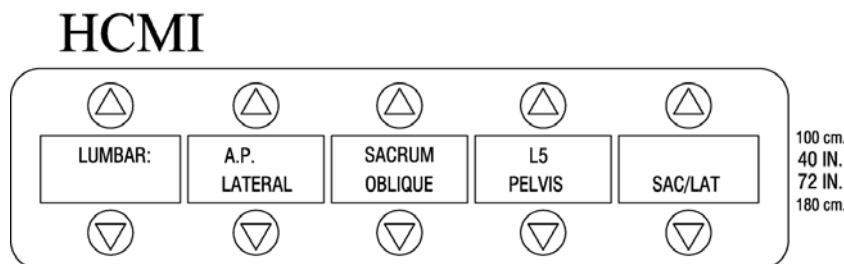

Figure 3-3 Anatomical View Selection Menu
1. Select the appropriate anatomical view by pressing the UP or DOWN sector key associated with the desired view (see figure 3-3). Anatomical names and/or designations can be modified, added or deleted from the program as described in Section G, Programming.